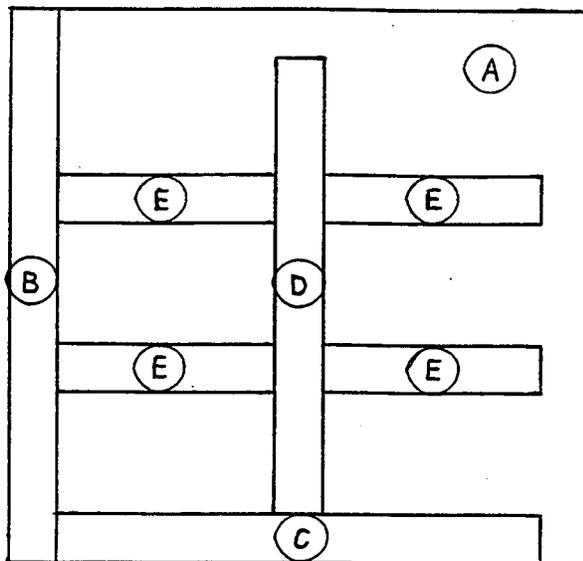

Figure 5.
Step 7: Following the procedures outlined in Steps 4 &5, progressively position the other two **strips E** into their proper places according to Figure 5.